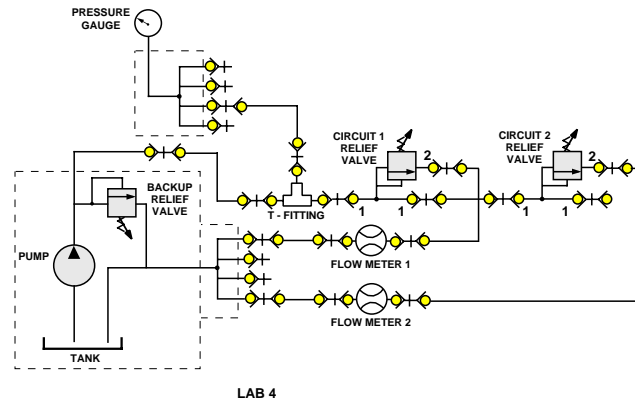

Fig. 2.1.16
1. Construct the circuit in Figure 2.1.16.